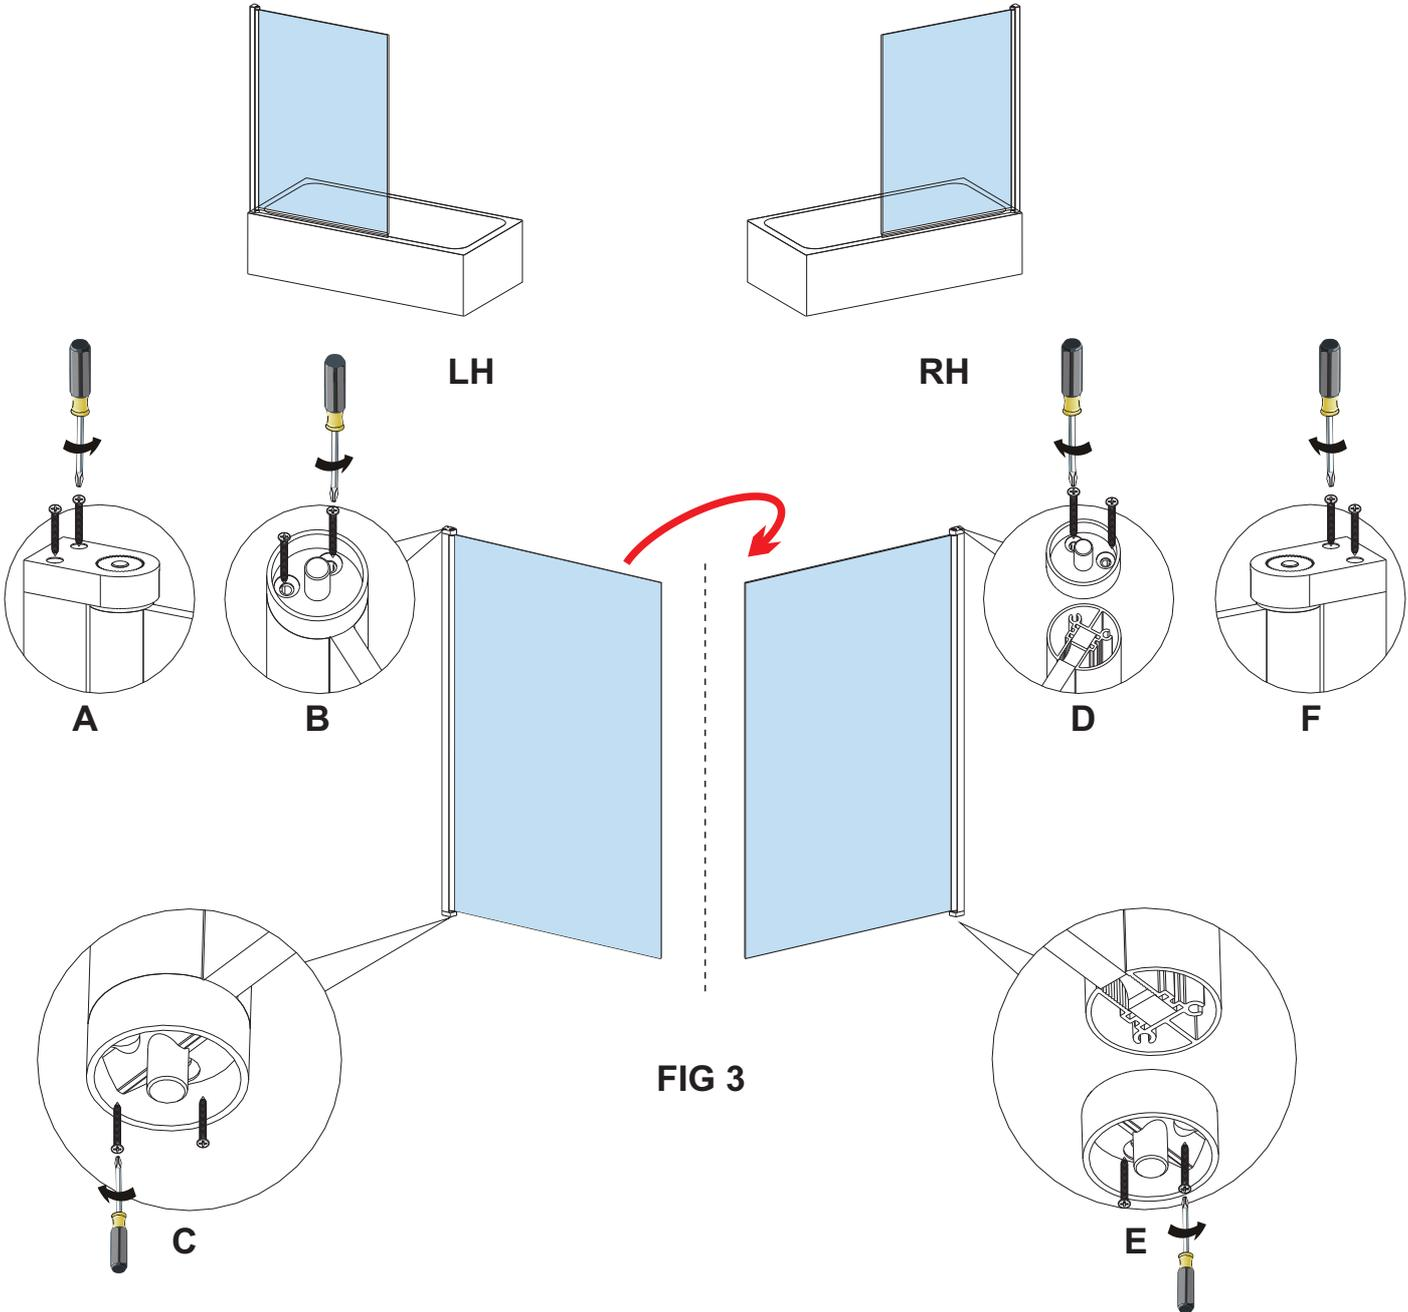

FIG 3
3. Ensure rising butt (**FIG 3/C**) is to the bottom, if not reverse by loosening screws as in A. Swing screen around and tighten screws as in **FIG 3.**